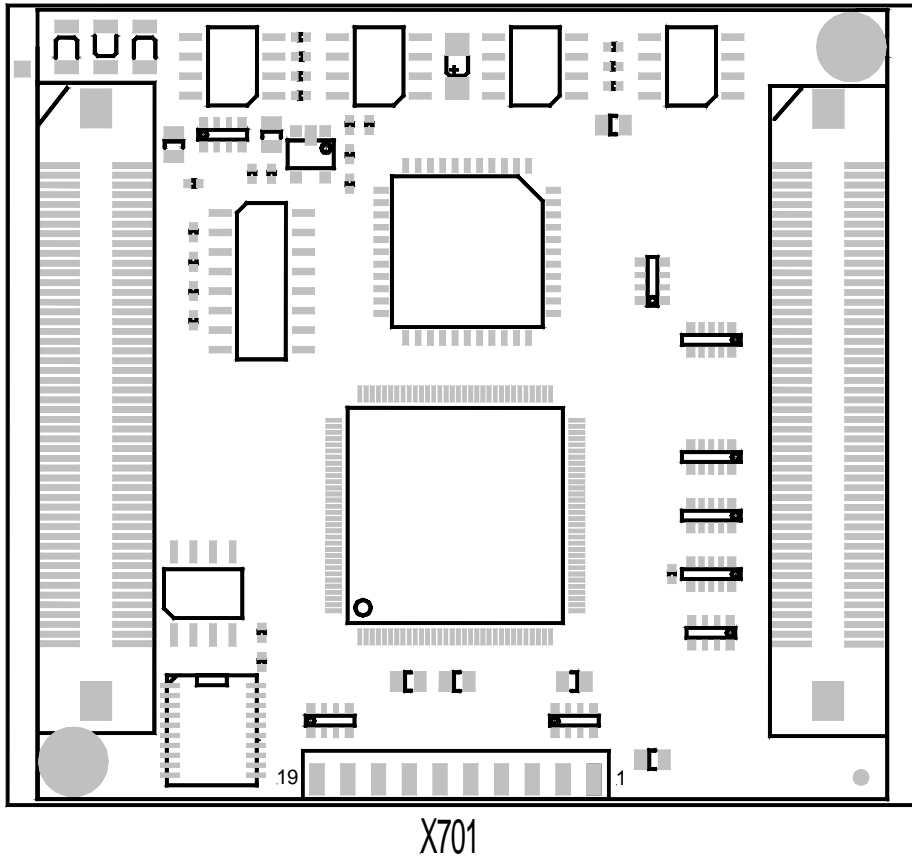

Figure 2: JTAG Connector X701 on the phyCORE®-LPC2294 (Bottom View)
- Connect the other 2.0 mm cable connector onto pin header rows X701 on the phyCORE® module. Make sure that pin #1 on the ULINK cable (black wire) is correctly connected to pin #1 on JTAG connector X701 (located on the connector side of the PCB) of the phyCORE®-LPC2294 (refer to Figure 2).